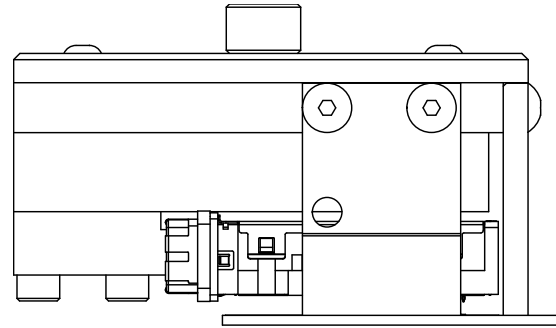

Figure 5
5. Tighten the extraction screw to remove the receptacle assembly from the pc board. See Figure 5.